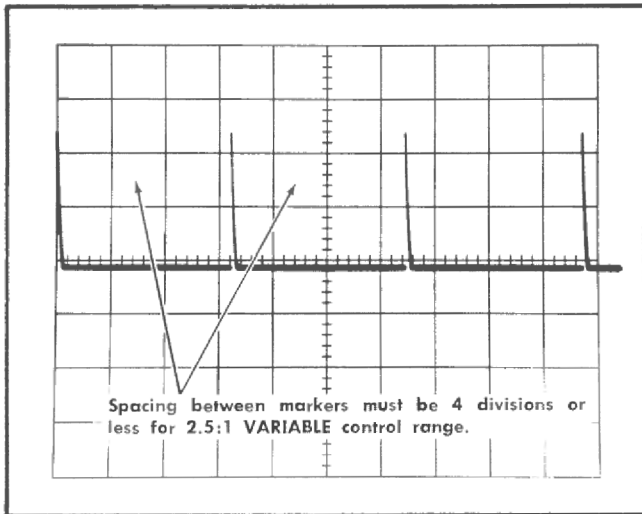

Fig. 6-46. Typical CRT display when checking VARIABLE TIME/DIV control range.
- e. CHECK—CRT display for four-division maximum spacing between markers (2.5:1 range; see Fig. 6-46). UNCAL light must be on when VARIABLE TIME/DIV control is not in CAL position.
43. Adjust 10 Microsecond Timing ①